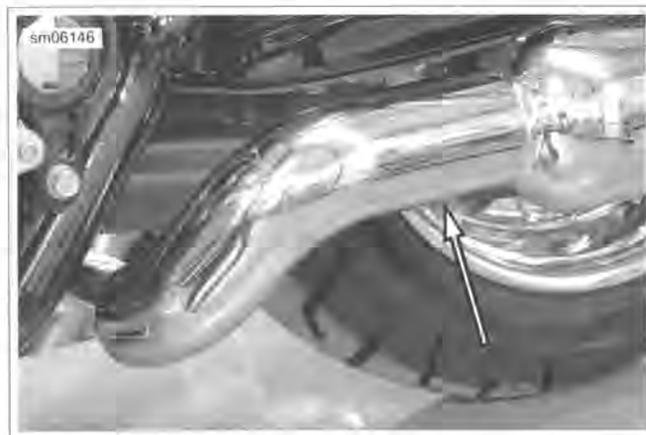

Figure 4-42. Crossover Pipe Heat Shield
- See Figure 4-42. Install crossover pipe heat shield with the longer straight portion toward the muffler.